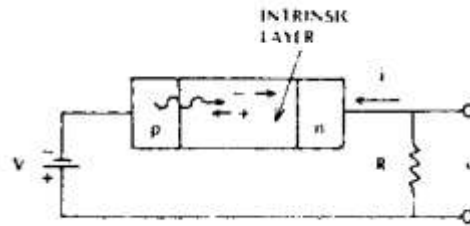

Figure 7-5 PIN photodiode
- PIN diode has a wide **intrinsic** semiconductor layer between the *p* and *n* regions, as illustrated in Fig. 7-5.